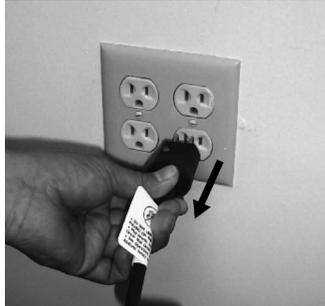

FIGURE 2: DISCONNECT AC CABLE
1. The AC cable must be disconnected from the wall outlet as shown in Figure 2.